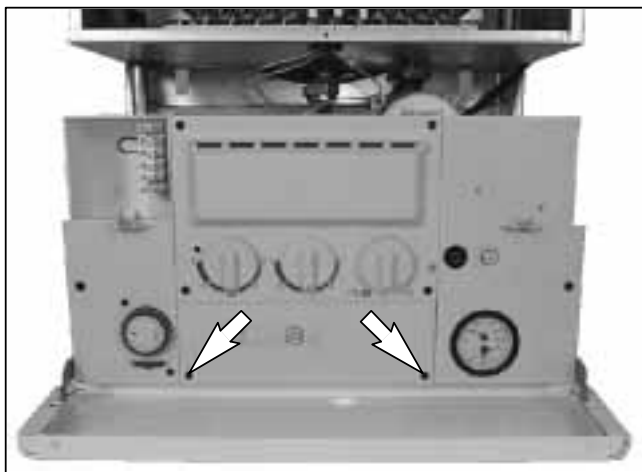

fig. 5.1
- 7 Loosen the two screws (fig. 5.1) and remove the cover of the control panel.